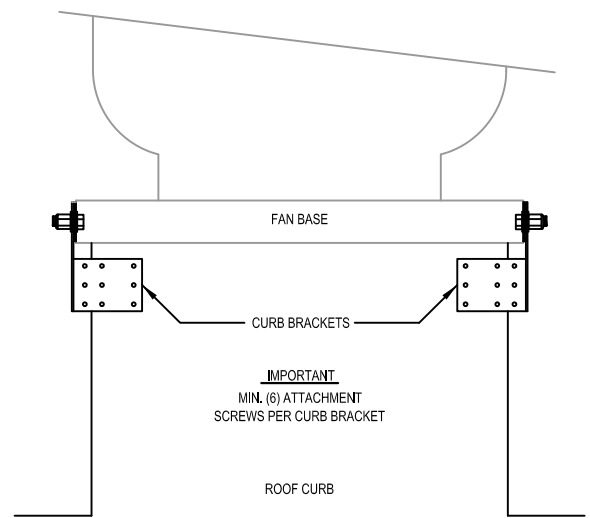

FIGURE 5
B - Using the (12) 1/4 - 20" x 3/4 long self drilling thread cutting screws, attach the curb brackets to the curb. Depending on the offset/overhang from the fan to the curb, there should be a minimum of (6) holes in each curb bracket that will make contact with the curb for a total of (12) screws in the curb (See Figure 5).